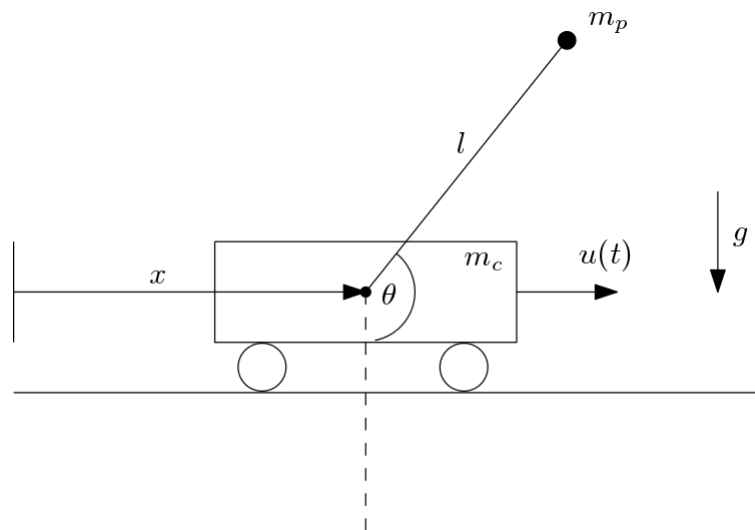

Figure 2 Cart-Pole
- a) Derive the State-Space System for the in exercise 1 presented cart-pole. Since we are using a Linear-Quadratic-Regulator, we have to linearize the system around $\theta = \pi - \phi$. Please add also an input term $u(t)$ into the equation as shown in Figure 2.